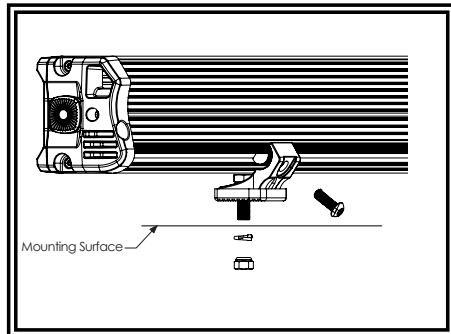

Figure 1
1. Insert a hex head bolt through each rear mount bracket and loosely secure the brackets to the rear of the lightbar as the button head bolts as shown in FIGURE 1.